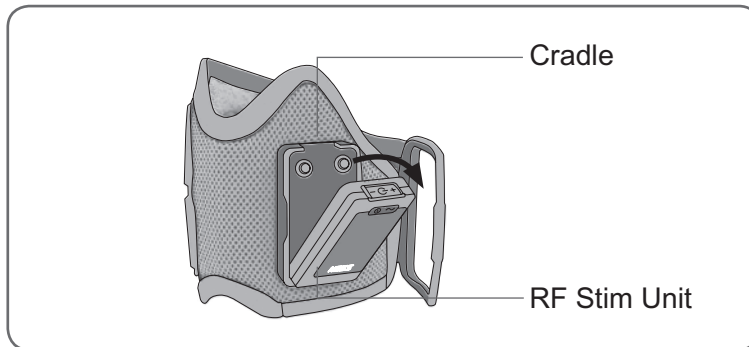

Figure 68: Removing the RF Stim Unit.
2. Pull the top of the RF Stim Unit away from the cradle. See Figure 68. If the fit is too tight, open the flexible cover over the RF Stim Unit charging port for a better grasp.